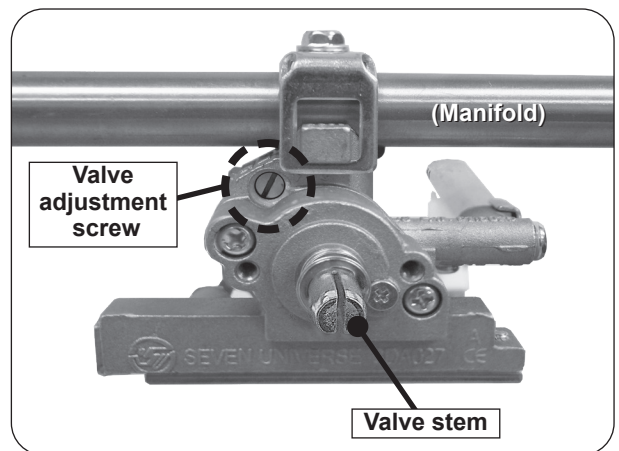

Fig. 44-1 Valve adjustment screw location
5. Locate the FLATHEAD adjustment screw found above the valve stem and below the manifold (see Fig. 44-1).